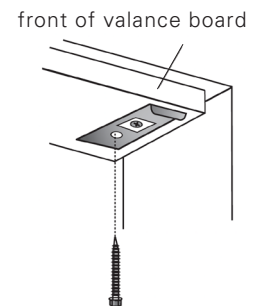

Figure 10
**1:** Install the valance board to the ceiling with screws and the appropriate anchors. [Figure 10]